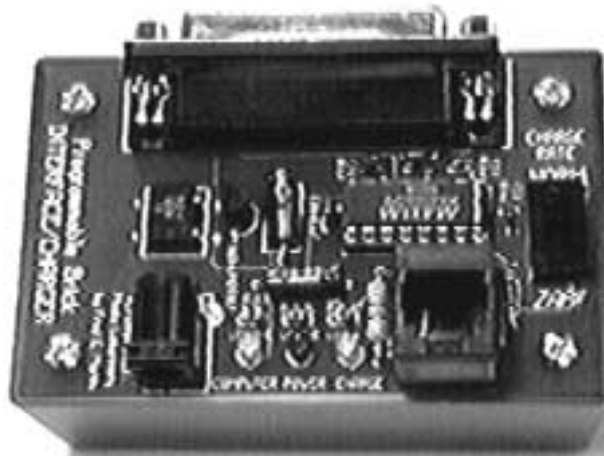

Figure 6: The Brick Interface/Charger Unit
2. *The Interface/Charger Unit, or I/C Unit.* The I/C Unit is depicted in Figure 6. It is smaller than the Programmable Brick, quite light in weight, and contained in a dark blue or black plastic case.